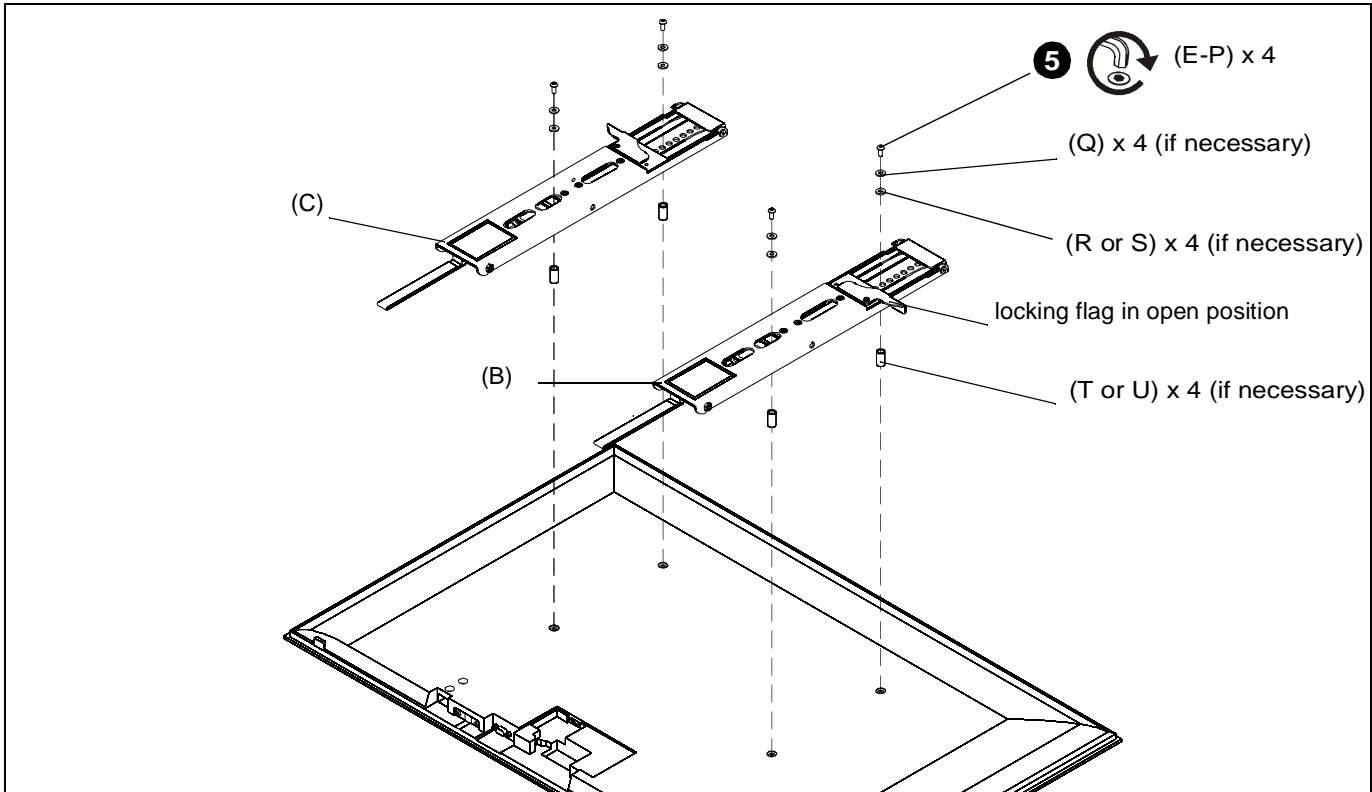

Figure 4
5. Install four button head cap screws (E-P) through required washers (Q) and spacers (R-U), interface brackets (B and C) into holes on back of display. (See Figure 4)
**NOTE:** Make sure locking flags are in the open position before attaching display to wall plate. Flags are shown in the open position in Figure 4.